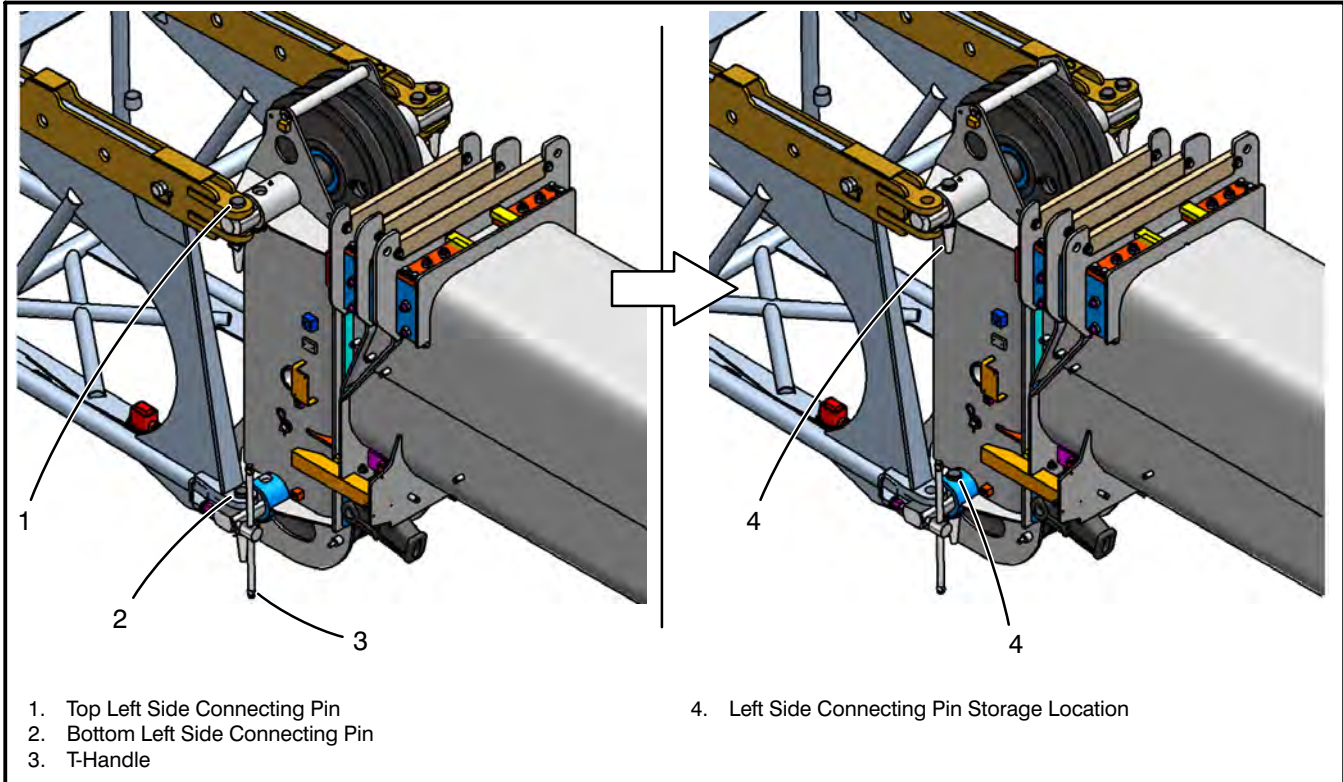

Figure 4-35
11. Remove the bottom left fly base connecting pin on the left side of the fly using the t-handle to assist in relieving the load on the pin. Refer to Figure 4-35. Back off the t-handle until at least a 1/2 in (1.3cm) clearance from the fly lug is obtained. Remove the top left fly base connecting pin. Store connecting pins in the storage holes on the boom head cross shafts on the left side of the boom.